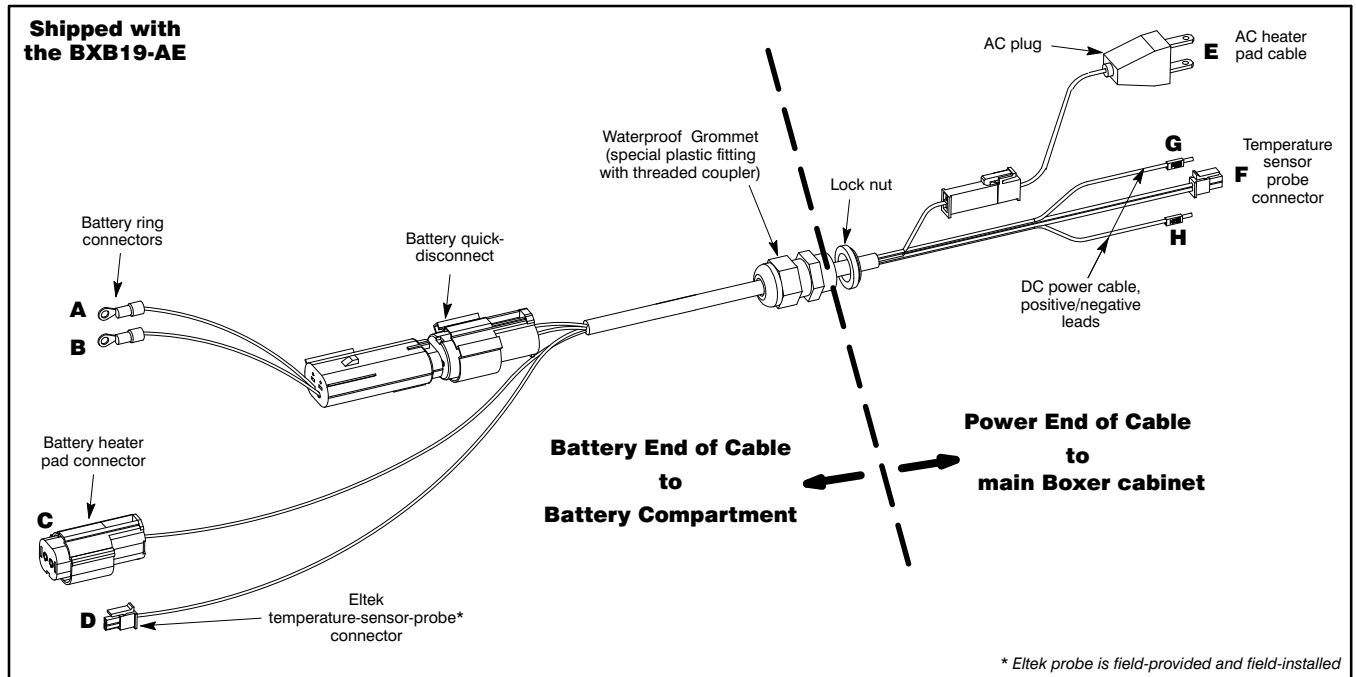
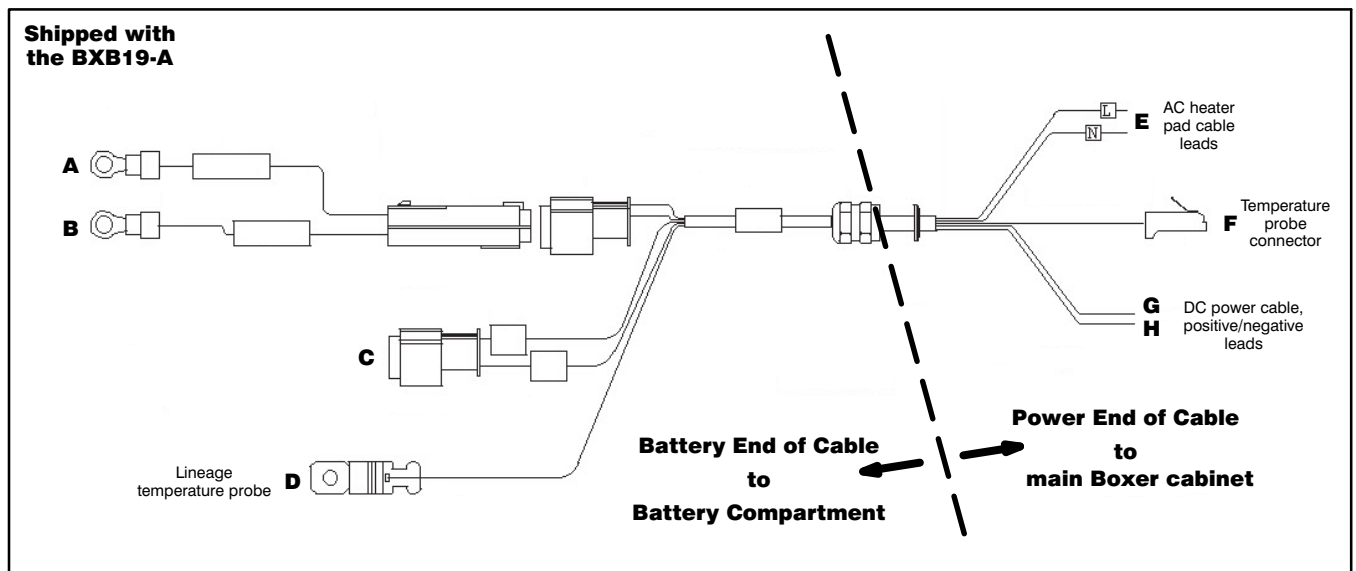
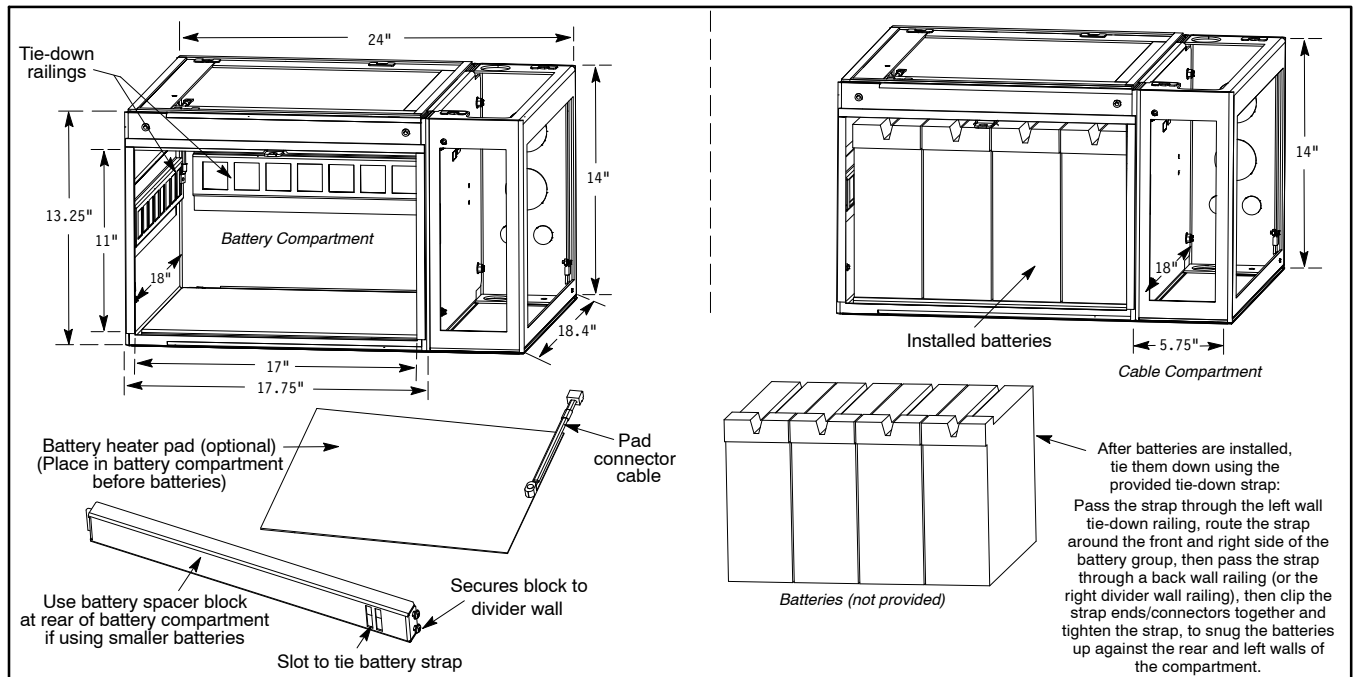

Figure 14. Westell Battery Cable Part # 023-800257 (supports field-provided/installed Eltek temperature probe)
Figure 15. Westell Battery Cable Part # 023-800674 (includes Lineage temperature probe)
Figure 16. Placing Batteries in Battery Compartment
Model BXB19-A does not include a heater pad, but Westell offers an optional battery heater pad for it (Part # A90-BXA-HP01). If using the optional heater pad, locate and unroll the heater pad. Place the heater pad into the bottom of the battery compartment (Figure 16), connector cable side up, and connector end on the right side of the tray. Spread out the pad to cover the compartment floor. Connect the heater pad's connector to the battery cable (Connector C in Figure 14) in Paragraph 3.8.2 after the battery cable is installed.
A special battery cable (Figure 14 or Figure 15) is shipped with the battery box, to facilitate backup battery connections. The BXB19-A ships with the 023-800674 battery cable shown in Figure 15, and the BXB19-AE ships with the 023-800257 battery cable shown in Figure 14. The battery compartment end of the cable contains 4 connectors (shown as connectors A, B, C, D in Figure 14), which are connected to the batteries and the battery heater pad in the battery compartment. The power end of the cable also contains 4 connectors (shown as connectors E, F, G, and H in Figure 14), which are connected to AC and DC power connectors in the main cabinet above the battery box. The middle of the cable contains a special grommet (fitting with a threaded coupler and lock nut) which is installed in the hole at the bottom of the Boxer main cabinet. Follow the steps below to connect the battery cable.
Before battery installation, first install the battery cable by performing the steps in Paragraph 3.8.2, then install the optional heater pad (see Figure 16), then install the batteries, per company practice or per the steps below. The total battery weight cannot exceed 250 pounds. See Figure 16 and Table 1 for battery compartment dimensions.
2. **Install the optional battery spacer block.** To help insure a snug battery fit, install the optional battery spacer block if the batteries are small enough to accommodate the installation of all the batteries plus the spacer block. The left wall tie-down railing can be used to adjust the installation depth of this spacer block. Orient the block as shown in Figure 16, and insert the left side flange of the block into the left-wall tie-down railing, per the battery depth. Secure the right side of the block to the holes located in the compartment divider wall.
6. **Connect battery cable connectors to batteries.** In the battery compartment, locate Connectors A and B of the battery cable (see Figure 14) and connect them to the proper battery terminals, per company practice.
8. **Connect DC leads to screw terminals of battery charger (user provided).** Locate the battery cable's DC leads (G and H in Figure 14) and connect them to the screw terminals of the battery charger's DC screw terminal strip, per company practice. Connect the red positive lead to the +V screw terminal, and connect the black negative lead to the -V terminal.